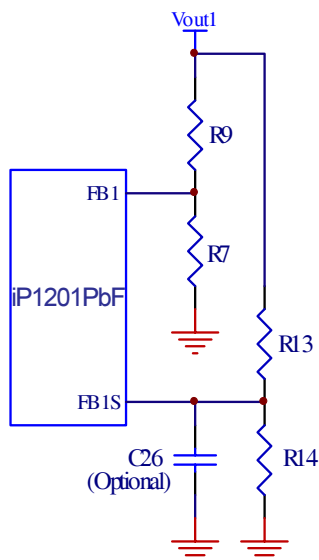

Fig. 19: Typical scheme for output voltage setting
Both outputs of the iP1201PbF. will shut down if either one of the outputs experiences a voltage in the range of 115% of V_{OUT} . The overvoltage sense pins FB1s and FB2s are connected to the output through voltage dividers, R_{13} and R_{14} (Fig. 19), and the trip setpoints are programmed according to equation (1). Separate overvoltage sense pins FB1s and FB2s are provided to protect the power supply output if for some reason the main feedback loop is lost (for instance, loss of feedback resistors). If this redundancy is not required and if Type II control loop compensation scheme is utilized, FB1s and FB2s pins can be connected to FB1 and FB2 pins respectively. An optional 100pF capacitor (C26) is used for delay and filtering purposes. In parallel configuration, FB2s should be connected to FB1s
When selecting output capacitors, it is important to consider the overshoot performance of the power supply. If the amount of capacitance is not adequate, then, when unloading the output, the magnitude of the overshoot due to stored inductor energy, and depending on the speed of the response of the control loop, can exceed the overvoltage trip threshold of the iP1201PbF and can cause undesirable shutdown of the output. The magnitude of the overshoot should be kept below $1.125V_{OUT}$. To prevent the overshoot from tripping the output a delay can be added by installing capacitor C26 as shown in Fig.19.
From Fig.19 the transfer function $H(s)$ of the error amplifier is given by (9):